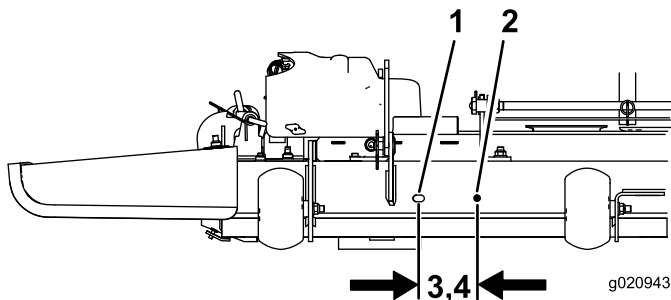

Figure 2
Certain 54 inch and 60 inch mower decks need a second hole to install the baffle. Use Figure 2 to determine if you have the second hole. If you have the second hole, go to the next procedure.
1. From the center of existing slot, measure over the correct distance as shown in Figure 2.